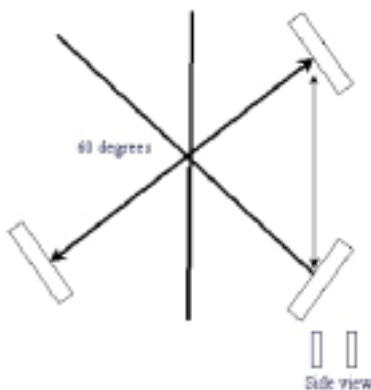

Figure 1.
1. The first orientation is for 6 antennas spaced every 60 degrees, between adjacent antennas and all 6 on the same level horizontally (Figure 1).